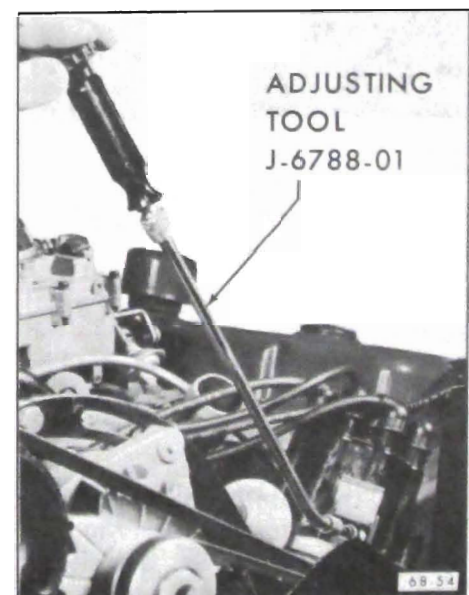

Figure 68-36 - Adjusting Contact Point Dwell Angle V-8 Engines
3. Start engine. Lift adjustment window and insert 1/8" Allen wrench in adjusting screw. See Figure 68-36. Set dwell angle at 30 degrees.